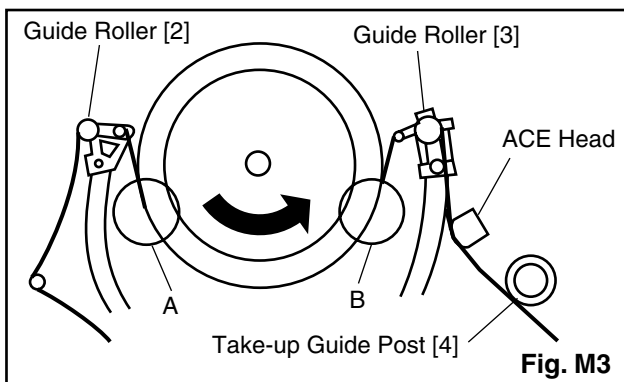

Fig. M3
1. Playback a blank cassette tape and check to see that the tape runs without creasing at Guide Rollers [2] and [3], and at points A and B on the lead surface. (Refer to Fig. M3 and M4.)
2. If creasing is apparent, align the height of the guide rollers by turning the top of Guide Rollers [2] and [3] with a Guide Roller Adj. Screwdriver. (Refer to Fig. M3 and M5.)
3. Check to see that the tape runs without creasing at Take-up Guide Post [4] or without snaking between Guide Roller [3] and ACE Head. (Fig. M3 and M5)
- Playback the Gray Scale on the Alignment Tape (FL6NS8). Set the Tracking Control Circuit to the preset position by pressing CH UP button and then "PLAY" button on the unit. Adjust the height of Guide Rollers [2] and [3] (Fig. M3, Page 2-3-3) watching the oscilloscope display so that the envelope becomes as flat as possible. To do this adjustment, turn the top of the Guide Roller with the Guide Roller Adj. Screwdriver.
- If the envelope is as shown in Fig. M7, adjust the height of Guide Roller [2] (Refer to Fig. M3) so that the waveform looks like the one shown in Fig. M9.
- If the envelope is as shown in Fig. M8, adjust the height of Guide Roller [3] (Refer to Fig. M3) so that the waveform looks like the one shown in Fig. M9.
- When Guide Rollers [2] and [3] (Refer to Fig. M3) are aligned properly, there is no envelope drop either at the beginning or end of track as shown in Fig. M9.
Note: Upon completion of the adjustment of Guide Rollers [2] and [3] (Refer to Fig. M3), check the X Value by pushing the CH UP or DOWN buttons alternately, to check the symmetry of the envelope. Check the number of pushes to ensure preset position. The number of pushes CH UP button to achieve 1/2 level of envelope should match the number of pushes CH DOWN button from center. If required, redo the "X Value Alignment."